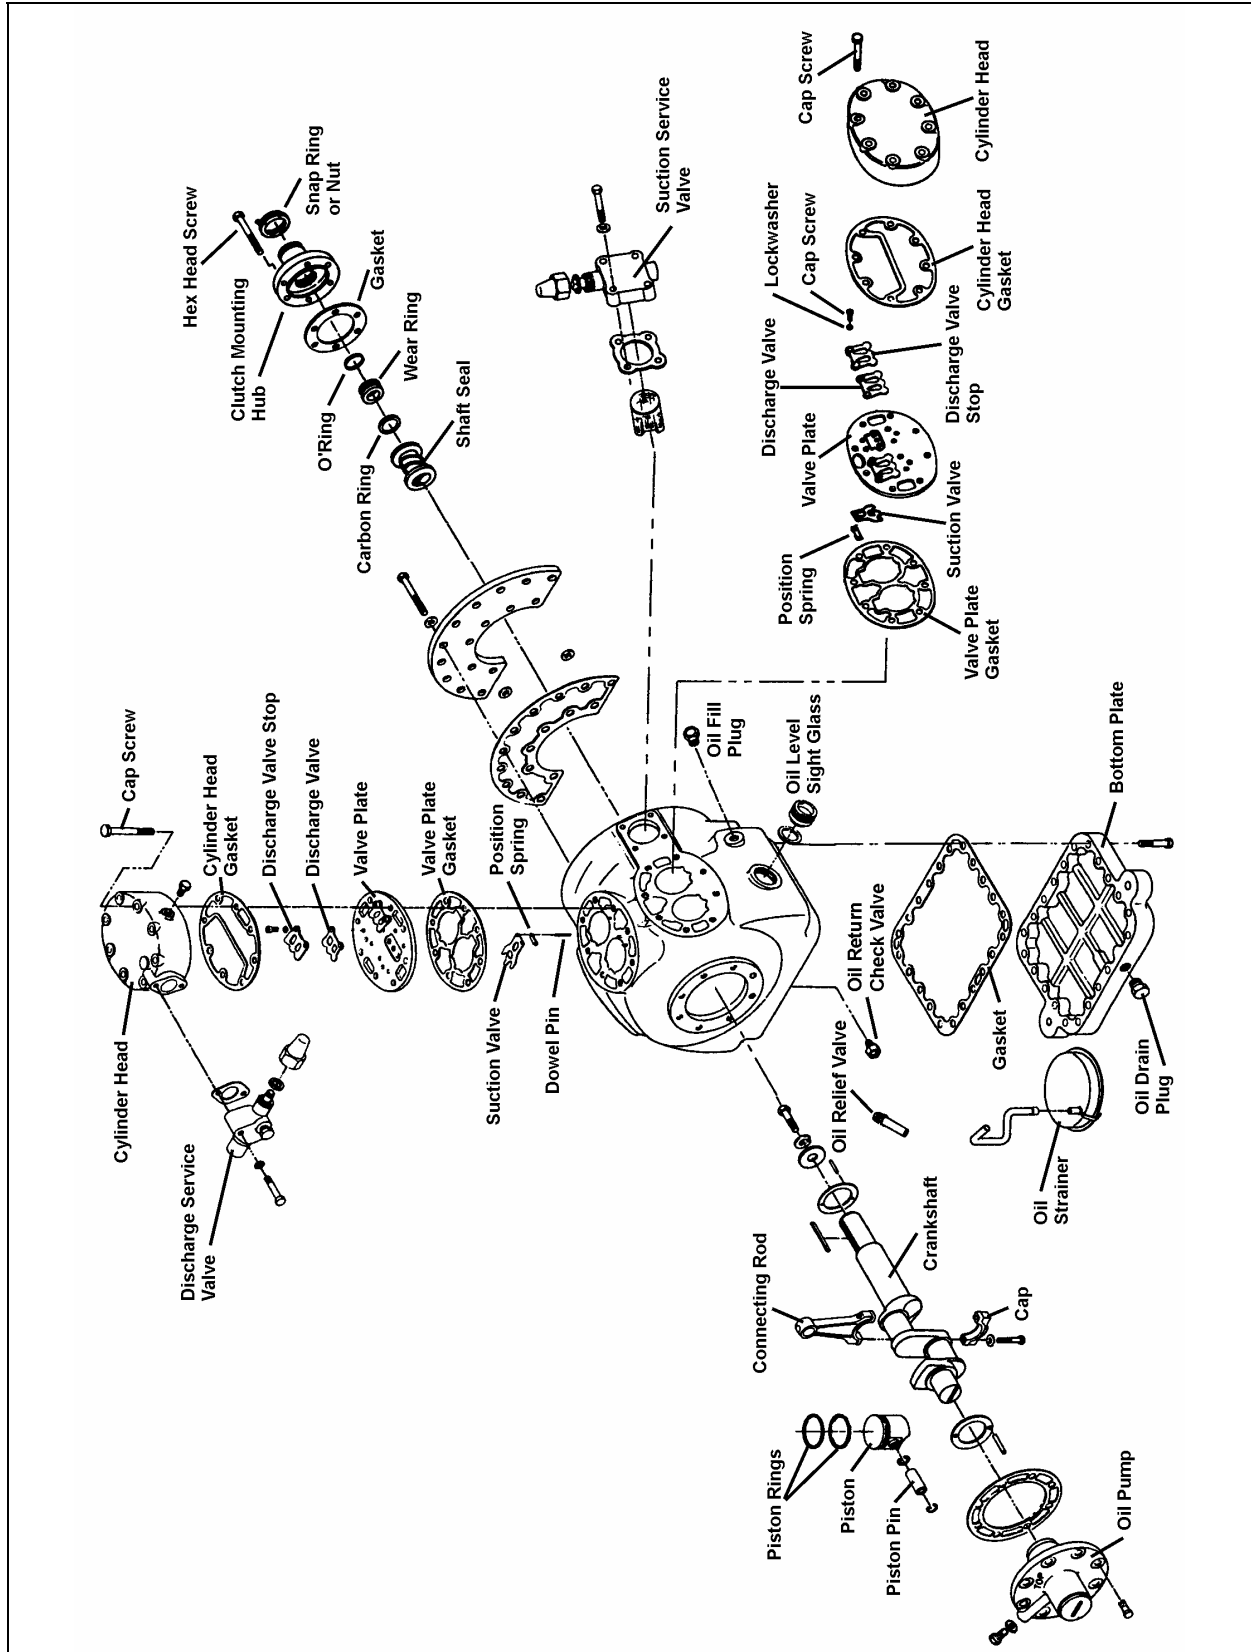

FIGURE 24: EXPLODED VIEW OF 05G COMPRESSOR
1. Rest an extremity of a straight edge of approximately 46 inches (117 cm) against the upper part of the outer face of crankshaft pulley, positioning the other end close to the compressor clutch pulley (Figs. 24 & 26).
Rest a short "angle and level indicator" on the outer side face of the crankshaft pulley, adjust the level indicator inclination at 0° and check if the compressor pulley is at same angle (Figs. 24 & 26). If it is not the same, shim under the appropriate pillow block in order to obtain the correct angle.